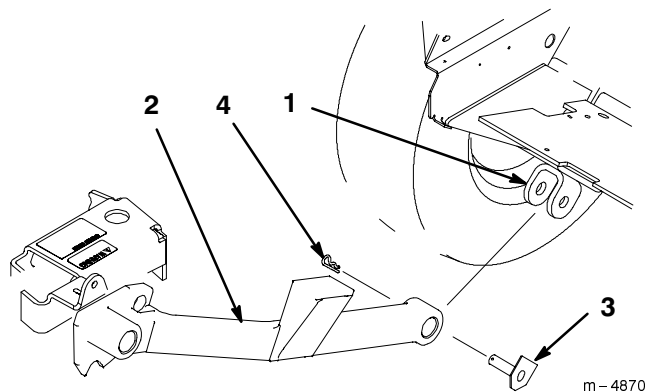

Figure 27
12. Remove hairpin cotters and pivot pin assemblies from push arms at traction unit pivot brackets (Fig. 27).